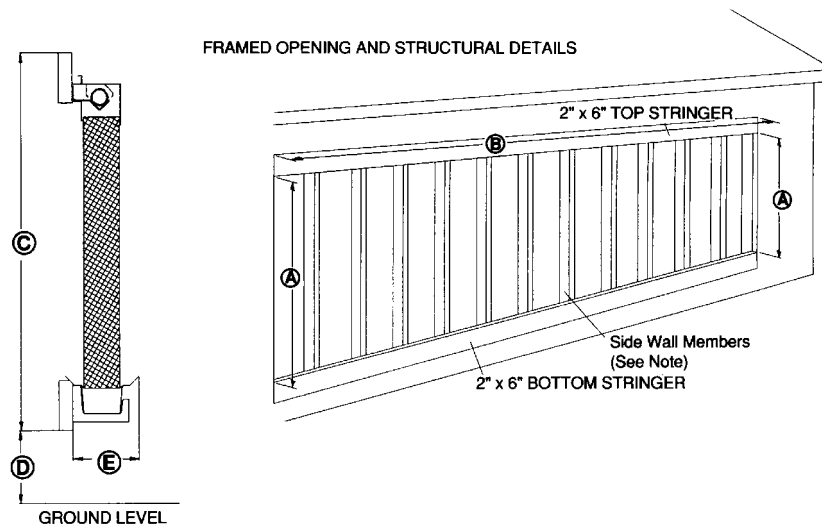

Figure 1
**Note:** The side wall structural members should be left intact as shown in figure 1.
- Framing -** Verify framing installation using instructions in framed opening B and in figure 1 on page 3. **If framing is not properly installed as shown the system will not operate properly.**